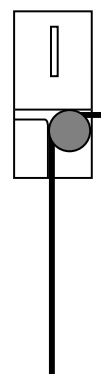

Figure 3
5. Clamp one end of the wire under the washer of the upper clamp. To do so, insert the bent part of the wire into the groove on the clamp, as shown in Figure 3, then firmly tighten the thumbscrew.